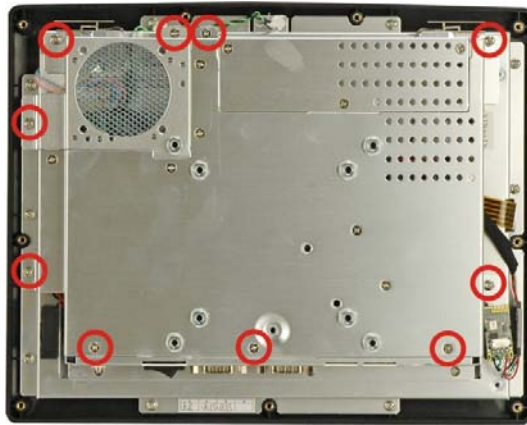

Figure 5-3: AFL-10A-N270 Aluminum Back Cover Retention Screws
Step 1: Remove the retention screws securing the internal aluminum cover. The screw numbers are varied in different models. **Figure 5-3** shows the aluminum cover retention screws of the AFL-10A-N270.